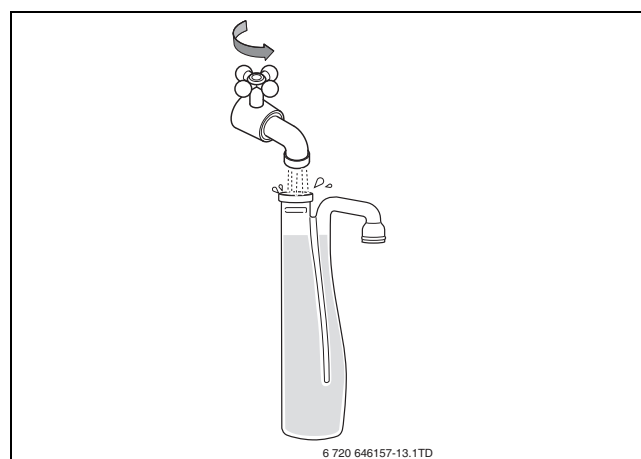

Fig. 14 Filling the condensate trap with water
- ▶ Fill the condensate trap (supplied with the boiler) with water (→ fig. 14).